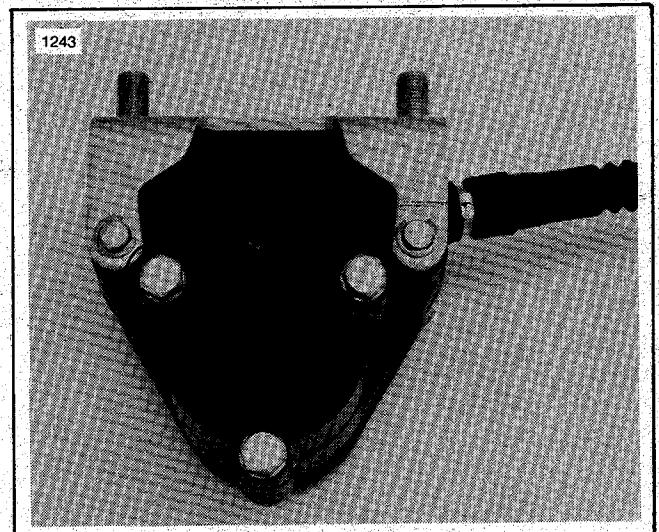

Figure 2-13. Cover Bolts
1. Remove the three caliper cover bolts (Figure 2-13).